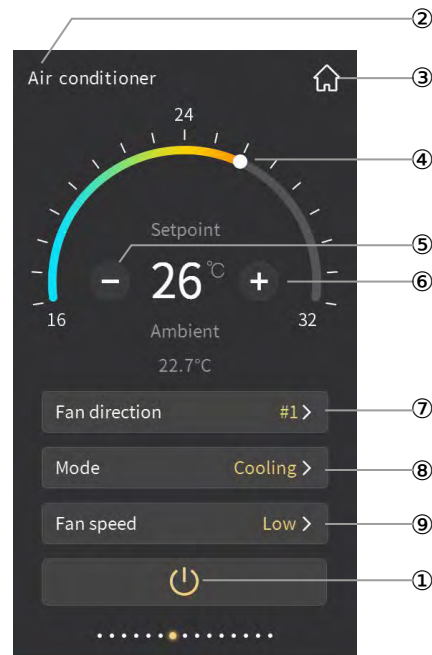
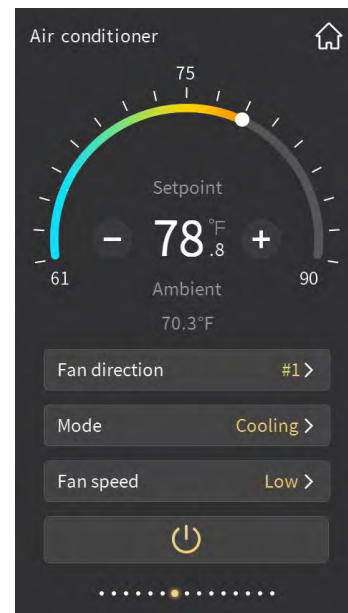
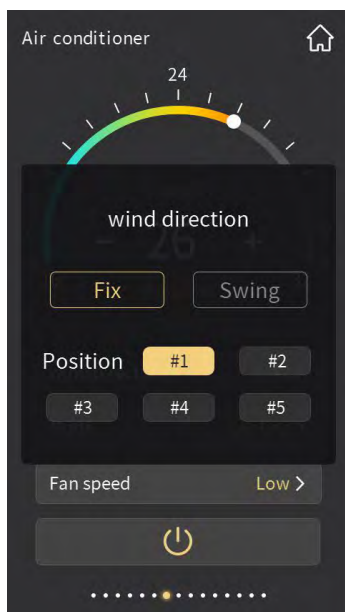

Fig.2.4.1
Fig.2.4.2
Fig.2.4.3
- ② This area displays the page description identification of Air-Conditioner control, user can define the description through ETS;
- ③ Return to Home page by touching this icon;
- ④ Adjust the setting temperature by sliding this ring slider;
- ⑤ The function of this icon is to decrease the temperature;
- ⑥ The function of this icon is to increase the temperature.
Adjusting the temperature by sliding the ring slider④ or touching the icon⑤ and icon⑥. For each touching of icon⑤ and icon⑥, the adjustment range is 1.0 degrees. When the setting temperature unit is set to degrees Celsius(°C), as shown in Fig. 2.4.1, adjustment range of the setting temperature is 16~32°C by default; when the setting temperature unit is set to Fahrenheit(°F), the current temperature value will automatically convert to Fahrenheit value, as shown in Fig.2.4.2, adjustment range of the setting temperature is 61~90°F by default. The temperature adjustment range can be modified through parameter setting.
- ⑦ Enter to the fan direction setting by touching this tile, and will pop up a sub-window shown as Fig.2.4.3;
Under fixed fan direction, select one of the 5 options (#1,#2,#3,#4,#5) for fan direction position, for instance, select #1, interface as shown in Fig.2.4.3, then touch the area outside the sub-window to return the previous level function page, the position selected will be shown on the fan direction area of the function page, as shown in Fig.2.4.1. For swing fan direction, because fan direction change all the time, there would be no fixed position, only display character "Swing" on the interface.
Fan speed adjustment of fan direction set to be disable or enable by parameter configuration. When disable, there will be no fan speed item shown on the interface, as shown in Fig.2.4.1; when enable, fan direction can be adjusted.